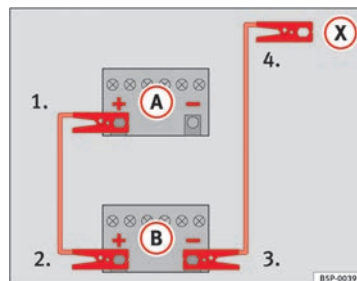
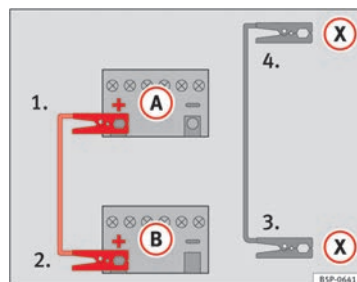

Fig. 204 Diagram of connections for vehicles without Start-Stop system
Fig. 205 Diagram of connections for vehicles with Start-Stop system
- Connect one end of the *red* jump lead to the positive (+) terminal of the vehicle with the flat battery (A) ⇒ Fig. 204.
- Connect the other end of the *red* jump lead to the positive terminal (+) in the vehicle providing assistance (B).
- Connect one end of the *black* jump lead to the negative terminal (–) of the vehicle providing assistance (B) ⇒ Fig. 204.
- Connect the other end of the *black* jump lead (X) to a solid metal component bolted to the engine block or to the engine block itself of the vehicle with the flat battery. However, connect it to a point as far as possible from the battery (A).
- Connect one end of the *red* jump lead to the positive (+) terminal of the vehicle with the flat battery (A) ⇒ Fig. 205.
- Connect one end of the *black* jump lead (X) to a suitable ground terminal, a solid piece of metal in the engine block, or to the engine block ⇒ Fig. 205.